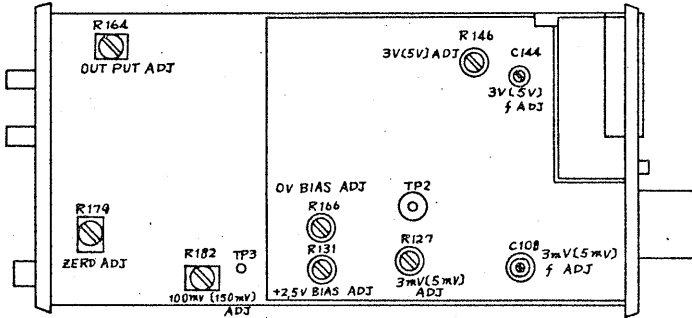
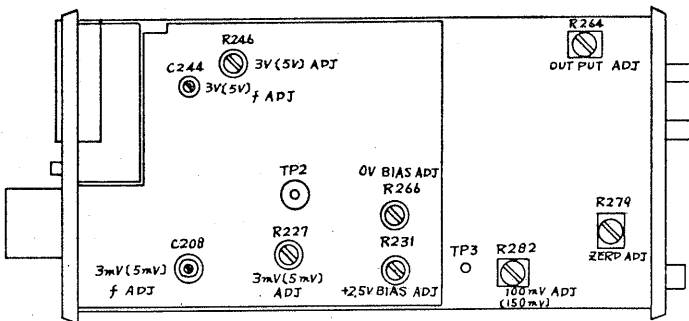

Fig. 5-1 (INPUT 1 channel)
Fig. 5-2 (INPUT 2 channel)
To gain access to the internal components, remove the top cover after removing the two clamping-screws on the top and other two clamping-screws at each of right and left side and remove the bottom cover after removing the four clamping-screws at the bottom. The layouts of components are shown in Figs. 5-1 and 5-2.
5.2 Adjustment and Calibration (See Fig. 5-1 and Fig. 5-2)